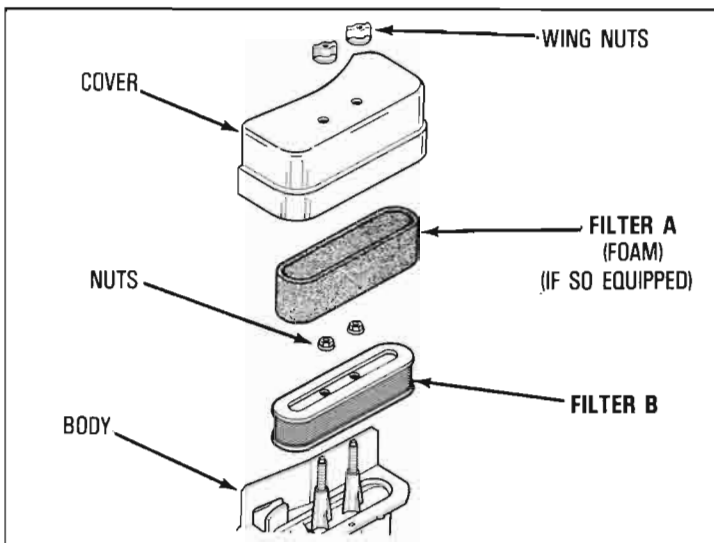

Figure 4
A. TO SERVICE FILTER(S) (see Figure 4):